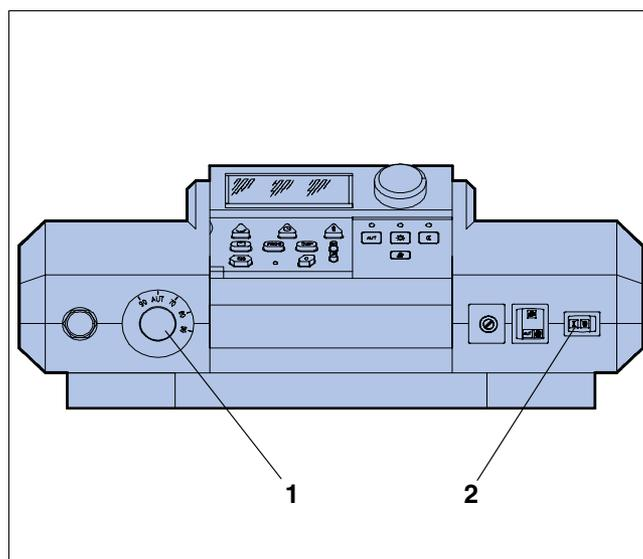

Fig. 2 2000 series Logamatic control device
Start up your boiler via the control device (in this example (Fig. 2): 2000 series Logamatic control device). By commissioning the control device, you also automatically commission the burner. The burner can then be started via the control device. For further details in this connection, see the operating instructions of the relevant control device or burner.
- Switch the boiler water thermostat (Fig. 2, **Item 1**) to "AUT".
- Set the On/Off switch (Fig. 2, **Item 2**) to "I" (ON).
- Set the On/Off switch (Fig. 2, page 9) to "0" (OFF).